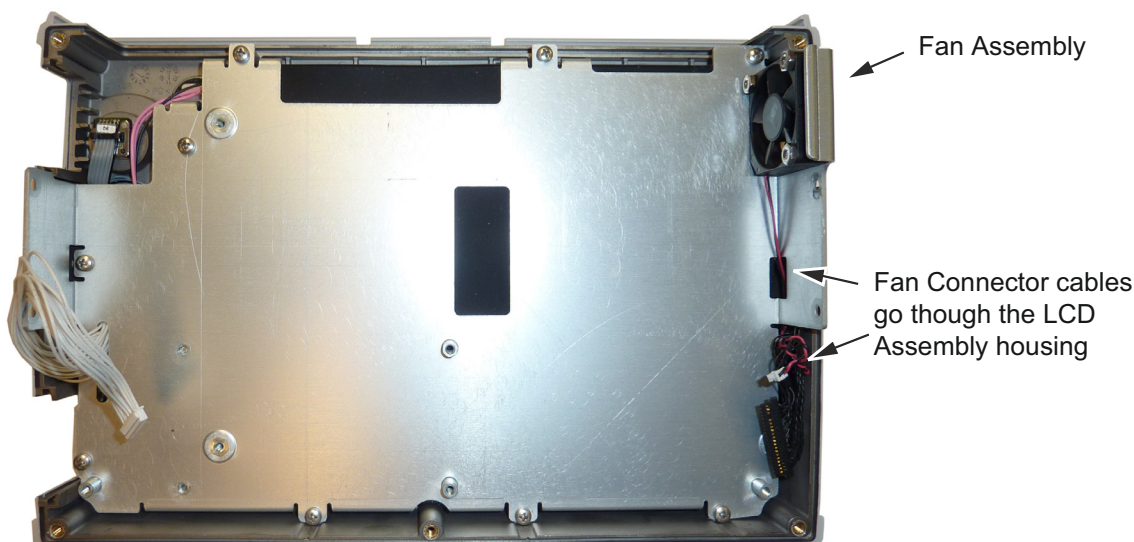

Figure 7-9. Front Panel Keypad Bezel
3. Remove the 3 screws and nuts holding the Fan Assembly to the LCD Assembly housing. Refer to \(Figure 7-9\).